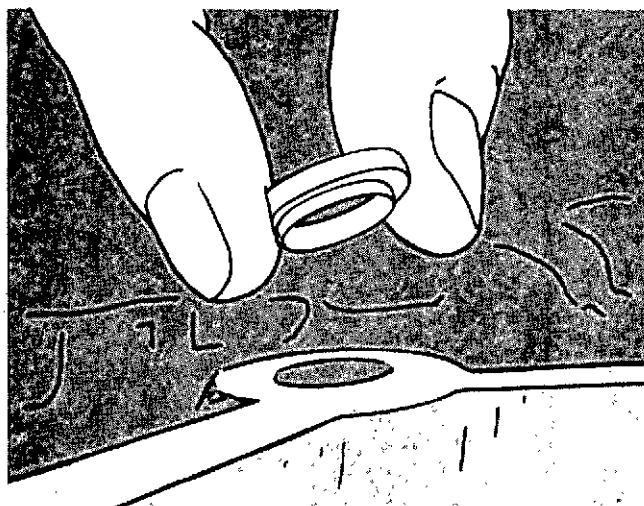

Fig. 20-3. Install The Jacobs Brake Steel Washers.
11. Install the Jacobs Brake steel washers into the mounting holes of the rocker lever housings, Fig. 20-3.